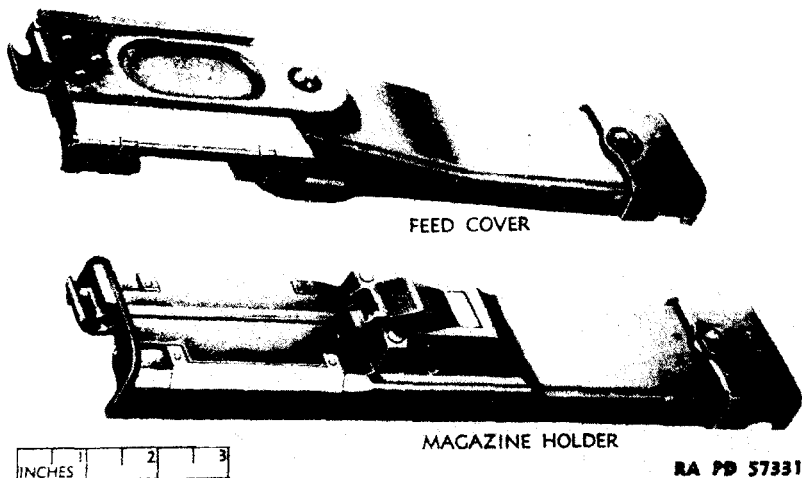

Figure 23 — Feed Cover and Magazine Holder — Top View
(1) To load the machine gun with the 75-round magazine, it is necessary to remove the feed cover and feed block, and to replace these with the magazine holder. To facilitate identification, the feed cover and magazine holder are compared in figures 23 and 24.